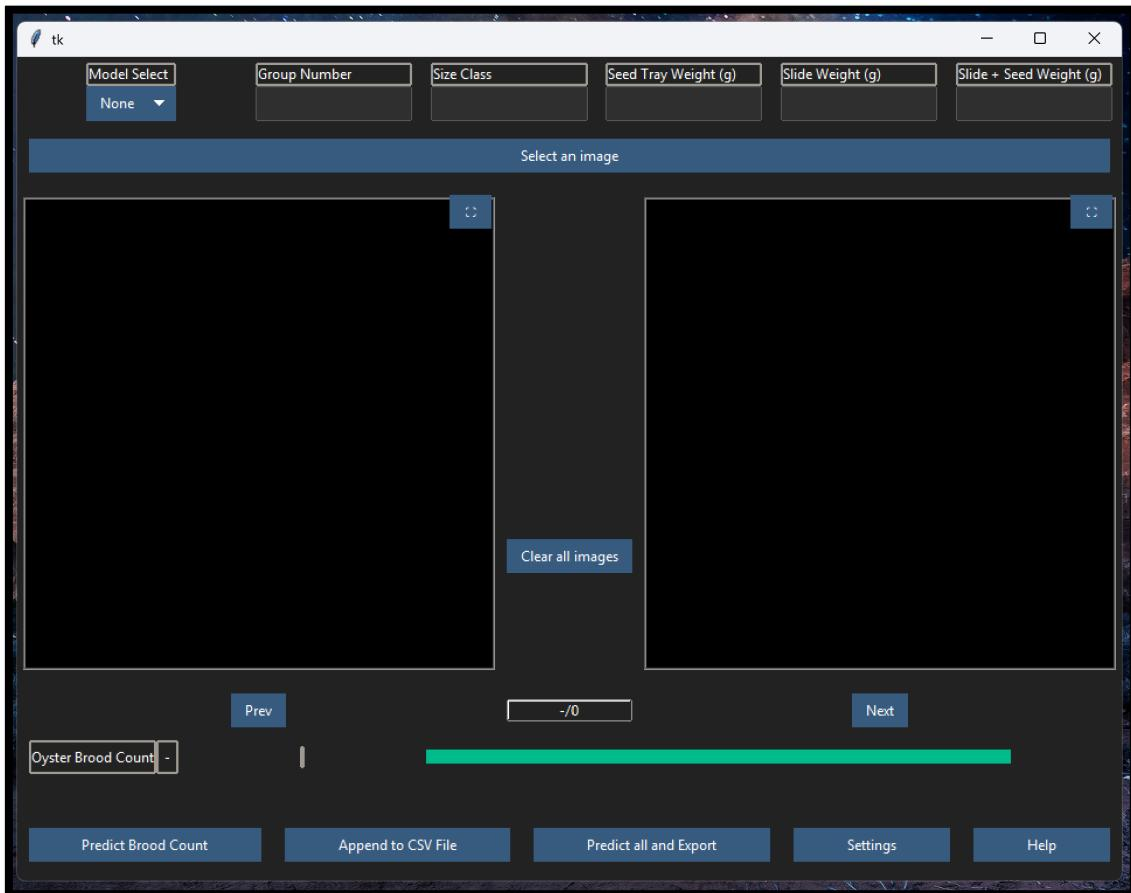

Figure 1.7. The open software window.
10. A black command window will appear and begin to install the necessary programs to run the software. Then the main software window will appear (Figure 1.7).